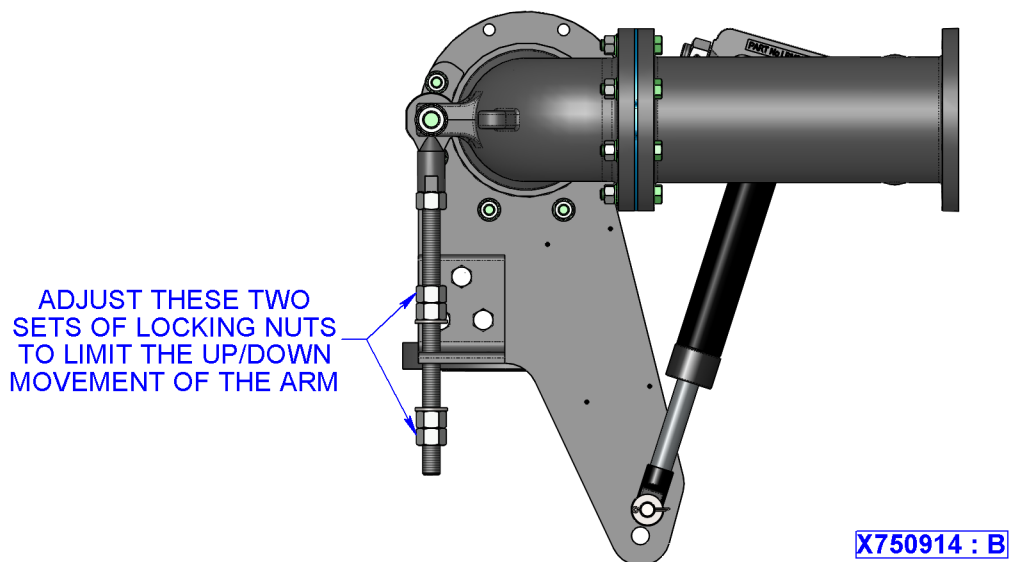

Figure 10: LBM800 Up-Down Stop Adjustment
- 4.3.1.1 To adjust the up stop, hold the arm at the maximum desired height and set the top two locking nuts to the top side of the bracket. (see figure 10)
- 4.3.1.2 To adjust the down stop, hold the arm at the minimum desired height and set the bottom two locking nuts to the underside of the bracket. (see figure 10)